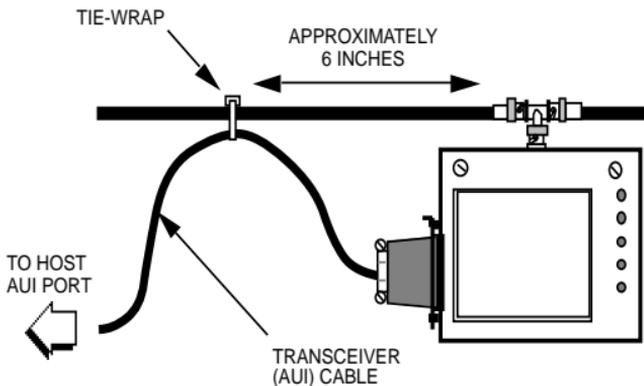

Figure 2-10. Attaching the Transceiver Cable
2. Use a tie-wrap to fasten the transceiver cable to the Ethernet cable (see Figure 2-10). This provides a strain relief for the transceiver cable connection.